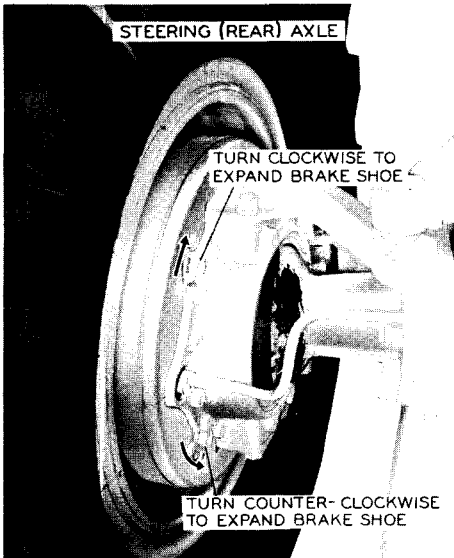

Figure 101
2. Expand brake shoes on each rear wheel, as shown in Figure 101, until a heavy drag is felt when rotating the wheels.